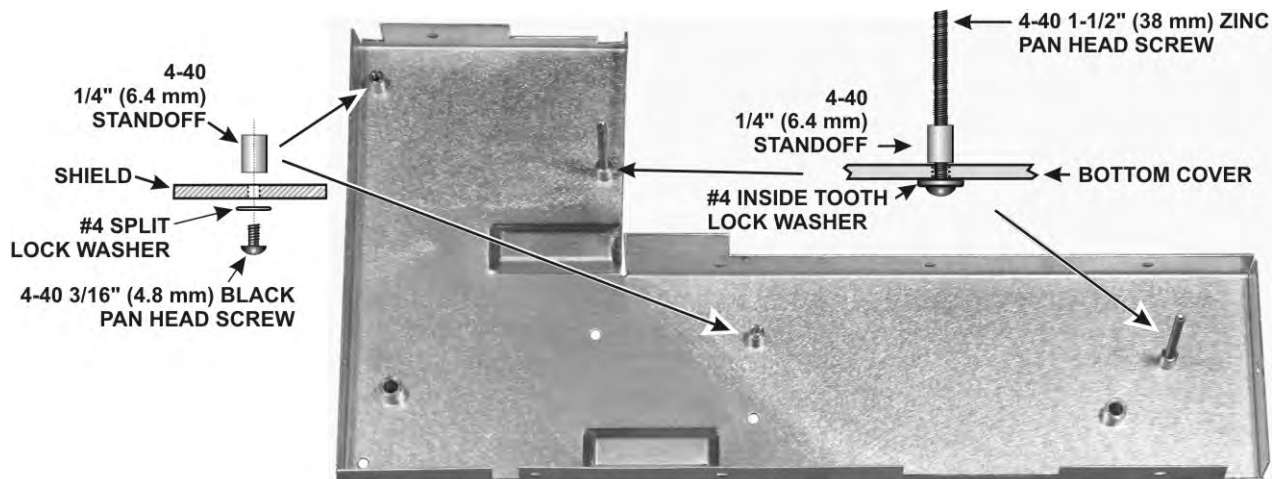

Figure 36. Mounting Standoffs on Shield Bottom.
- Install four standoffs on the bottom half of the KRX3 shield assembly as shown in Figure 36. The bottom of the shield has the shorter permanently mounted standoffs. The standoffs you install go on the same side of the shield as the permanent standoffs. There are extra holes in the shield. Be sure you put the standoffs in the correct locations and that the standoffs with the long screws are in the positions shown.